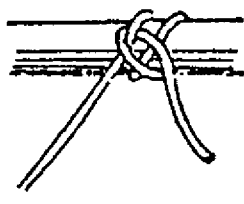

Fig. 3-30-2
- b. Pass the end over and under the standing part of the rope for the first tie. (Fig. 3-30-2)